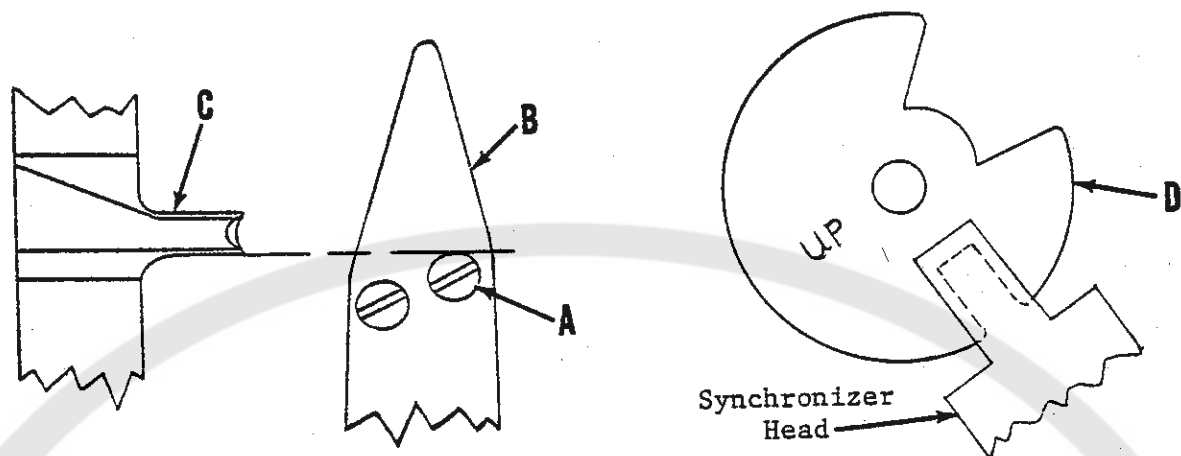

Fig. 37
With power off, turn the handwheel in operating direction until thread take-up is $\frac{1}{8}$ inch (3.18 mm) before top dead center, OR leading edge of the first screw (A, Fig. 37) in the hook deflector (B) aligns with front edge of positioning finger (C) with needle in the up position. Rotate the needle-up disc (D) until its smaller opening is centered in the synchronizer head.